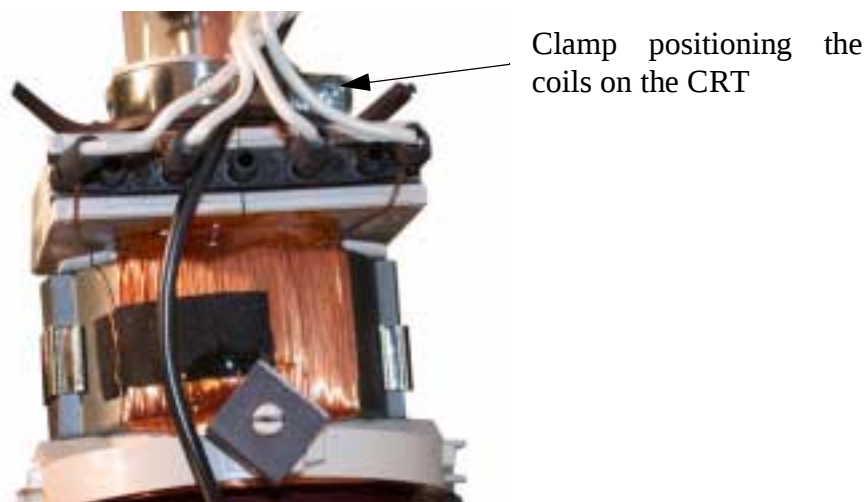

Figure 1.9 : Clamping the coils on the CRT
- Slacken the screw clamping the coil to the CRT and remove the coils (figure 1.9).